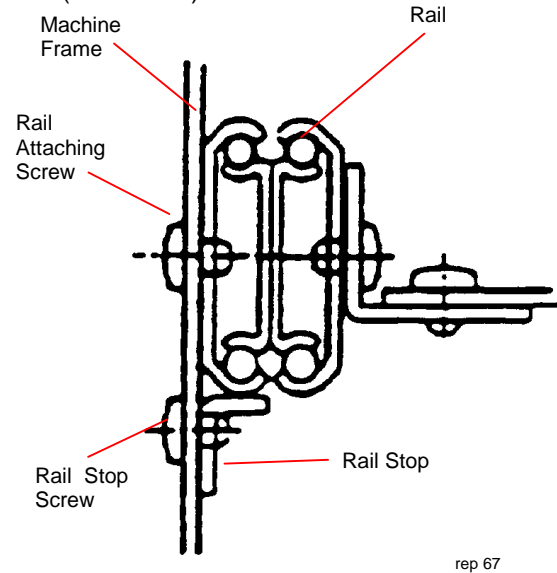

Figure 2. Adjusting the Rails
3. (Figure 2): Loosen the Rail Stop Screws (both sides).